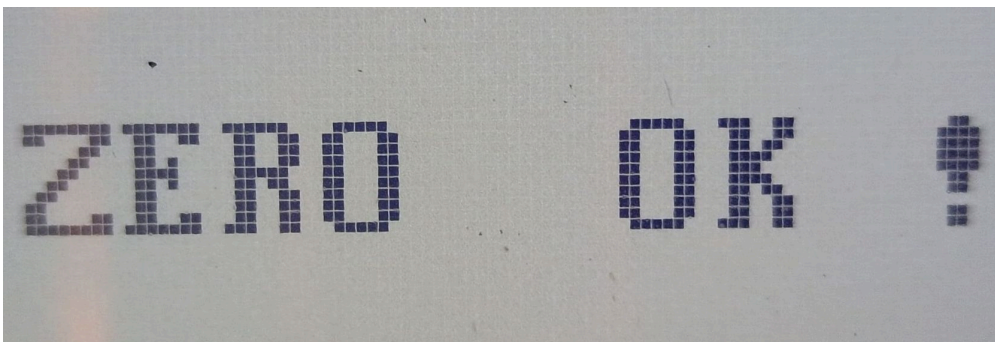

Figure 6.2 — ZERO OK! — zeroing completed successfully
5. At the end of the procedure the display shows **ZERO OK!** (see *fig. 6.2*): the pair of probes is now correctly zeroed and the instrument is ready for measurement.